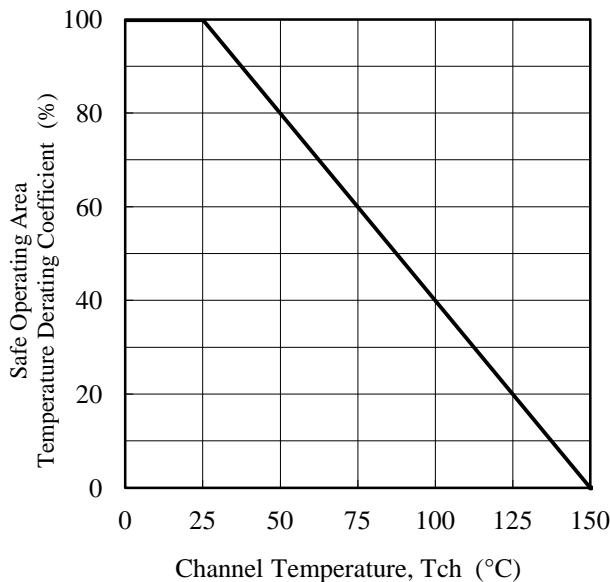

Figure 3-1 SOA Temperature Derating Coefficient Curve
(1) Refer to Figure 3-1 SOA Temperature Derating Coefficient Curve
(2) Maximum Switching Current is Drain current that is limited by the  $V_{GS(th)}$  of internal MOSFET and the gate drive voltage of internal control IC setting.  $T_A = -20$  to 125 °C
(3) STR-A61xx :  $V_{1-3} = 0.86 \text{ V}$ , STR-A61xxM/E :  $V_{1-3} = 1.28 \text{ V}$
- When the IC is used, the safe operating area curve should be multiplied by the temperature derating coefficient derived from Figure 3-1.